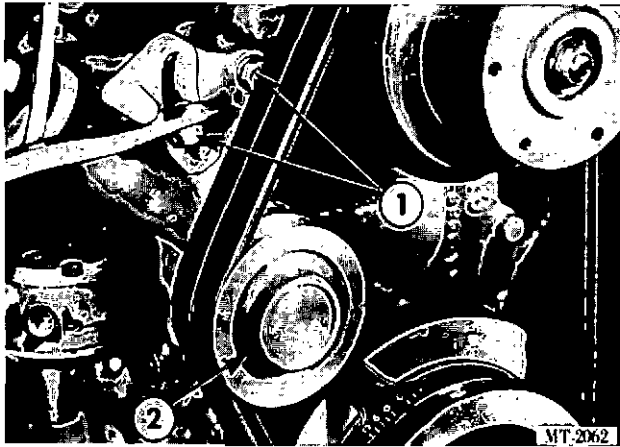

Fig. 11 Adjusting Fan Belts
Belt tightening is accomplished by loosening the idler pulley bracket clamp screws (1) and by means of a short lever (Fig. 11). The idler pulley (2) is moved against the belts to obtain the specified adjustment in both belts.